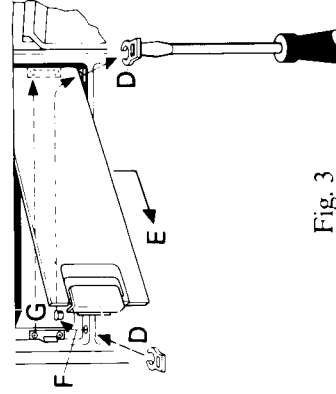

Fig. 3
- 1) Remove the main door by loosening the rear mounting screws and unscrewing the door hinges (A) from the cabinet.
- 3) Pull the hinge cover plates (B) off the door and transfer them to the opposite side.
- 6) Transfer the door handle (C) to the opposite side positioning it where required (see overleaf).
- 7) Set the main door aside and turn to the cabinet and reverse the Frozen Food Compartment door (see Fig. 3). To do this: